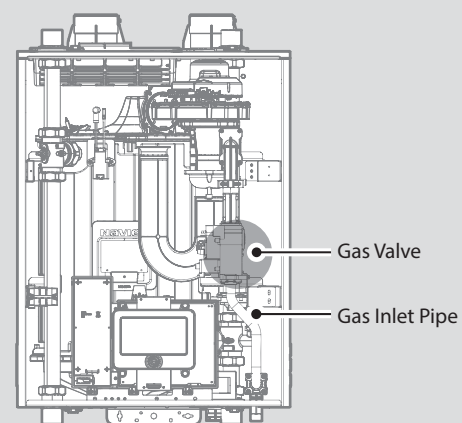

Figure 2. NFB Series Internal Components
- With the internal components exposed, locate the gas inlet pipe and the gas valve, as shown in Figure 2.